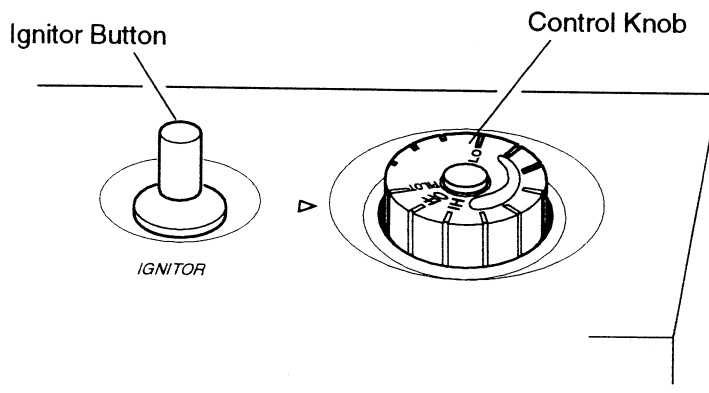

Figure 28 - Control Knob In The OFF Position
4. Wait five (5) minutes to clear out any gas. Then smell for gas, including near the floor. If you smell gas, STOP! Follow "B" in the safety information at the top of page 23. If you don't smell gas, go to the next step.
5. Turn control knob counterclockwise  to the PILOT position. Press in control knob for five (5) seconds (see Figure 28, page 23).